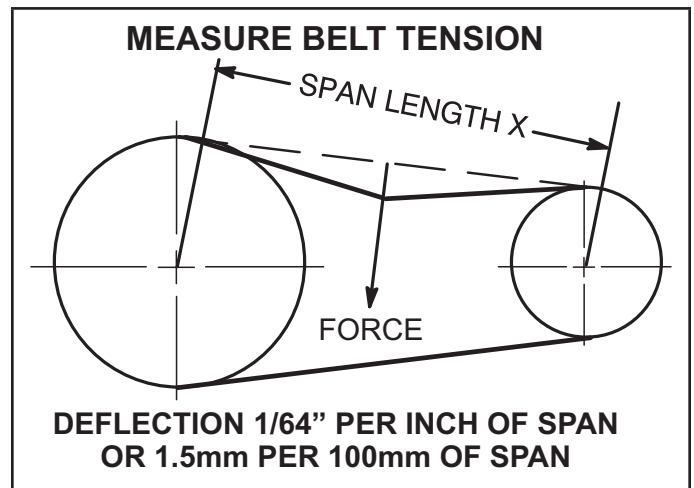

FIGURE 27
- 1 - Measure span length X. See FIGURE 27.
- 2 - Apply perpendicular force to center of span (X) with enough pressure to deflect belt $1/64"$ for every inch of span length or 1.5mm per 100mm of span length.